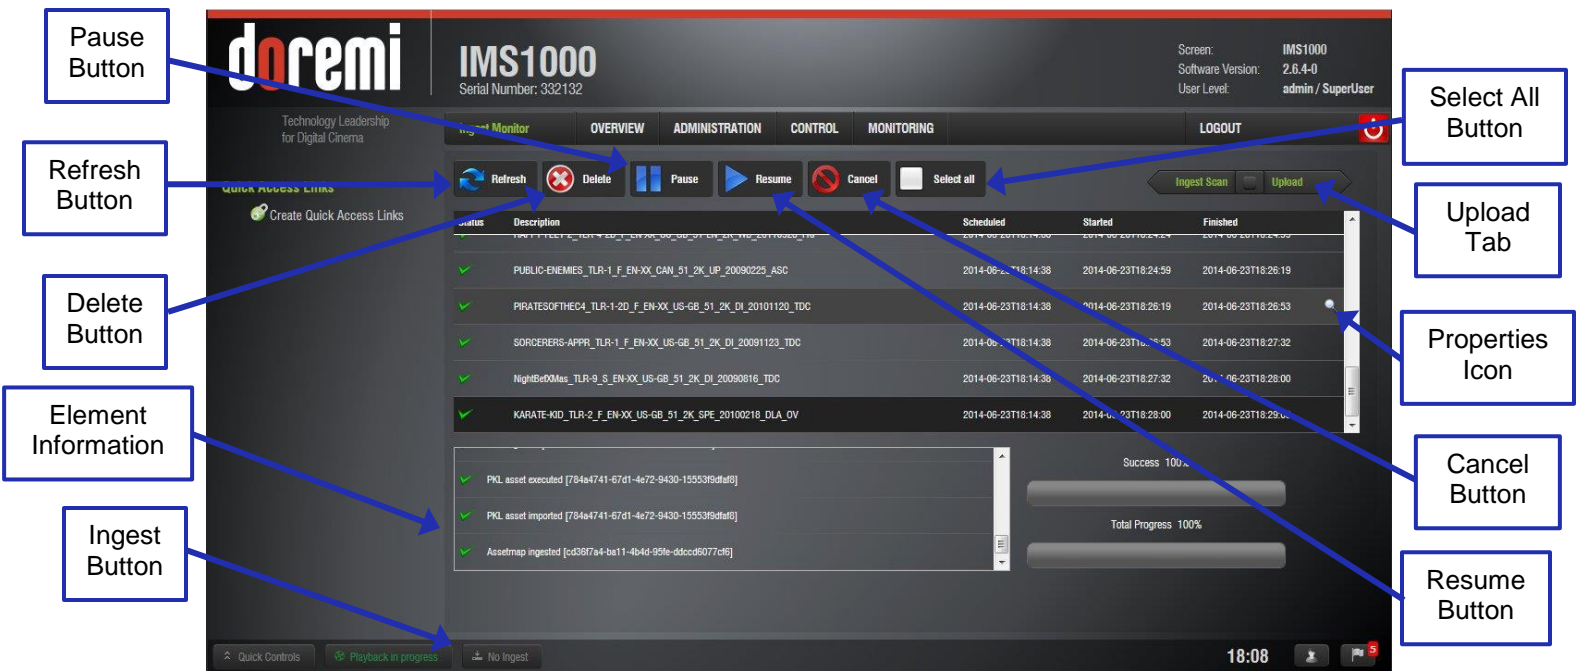

Figure 279: Ingest Progress
The IMS1000 allows the user to ingest content while the server is ingesting previously selected content. Click on the Ingest Monitor tab to see the progress of all the ingested items (Figure 279).
- To see an updated view of the Ingest Monitor will all recently ingested items, click on the Refresh button (Figure 279).
In the Ingest Monitor tab, the user has the option to delete, pause, resume, or cancel an ingest using the available buttons (Figure 279).
To select or unselect all items, use the Select All button (Figure 279).
To see more details for each element, highlight the item and click on the Properties icon on the right-hand side (Figure 279). The element information will be displayed at the bottom of the window (Figure 279).
The Ingest button in the bottom Notifications bar will alert the user to any ingest that is in progress (Figure 279).
Clicking on the button will open the Ingest Monitor tab that displays the ingest progress (Figure 279).
The Ingest Upload tab can be used to upload packages from your local network. To upload a package, go to Control → Ingest Manager → Upload (Figure 280). Alternatively, clicking on the green arrow on the right hand side of the GUI in the Ingest Scan and Ingest Monitor tab will also open up the Upload tab (Figure 279).